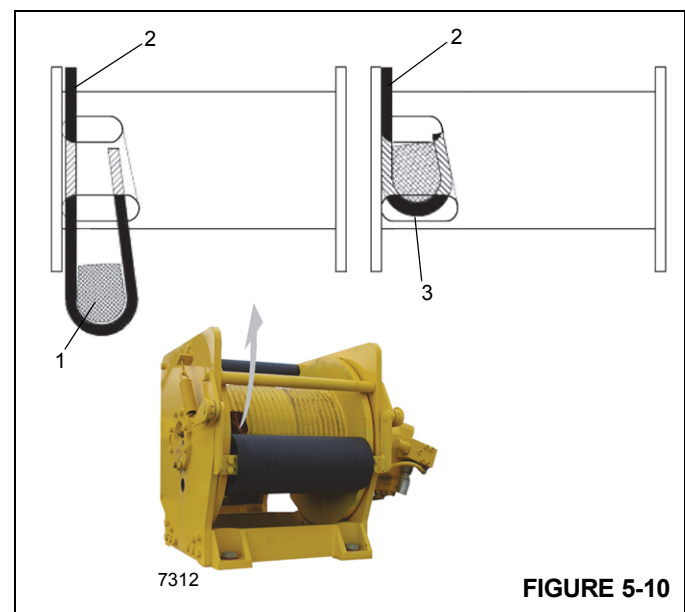

FIGURE 5-10
3. Insert the cable through the slot and position around the anchor wedge (1) Figure 5-10.